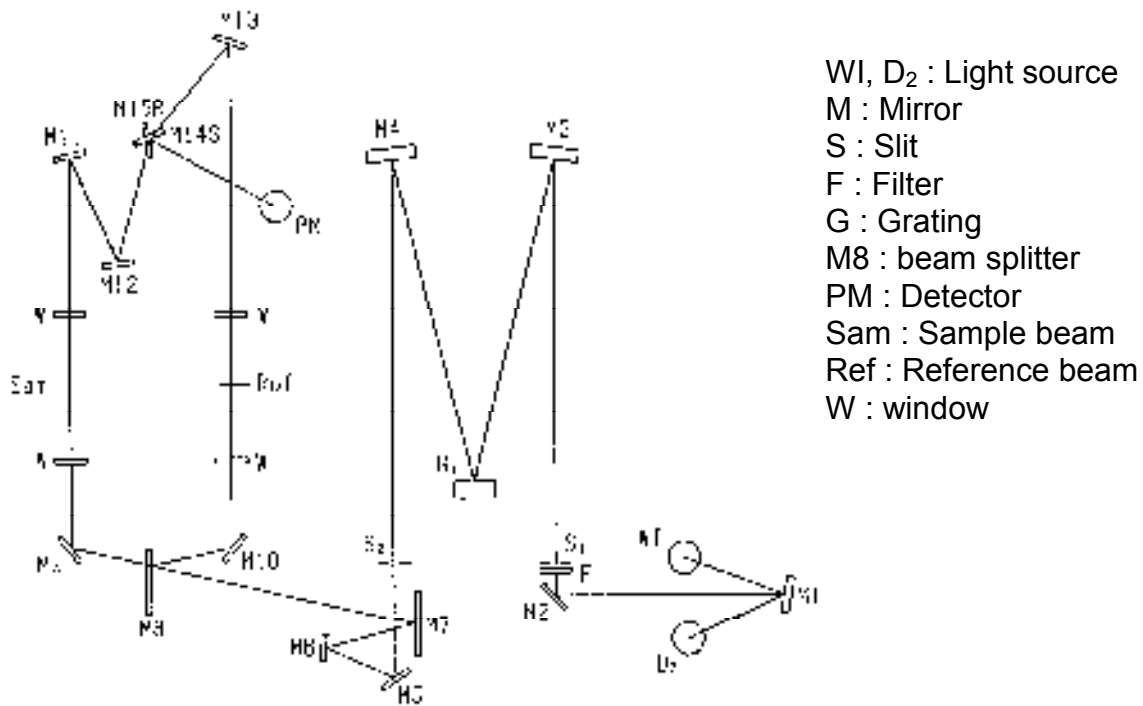

Figure 2.3 V-550 Optical system
Figures 2.3 through 2.5 show the optical systems of the V-550, V-560 and V-570 spectrophotometers, respectively. The V-550 and V-560 measure the absorption spectrum of a sample at wavelengths in the range 190 to 900 nm and the V-570 measures the absorption spectrum of a sample at wavelengths in the range 190 to 2500 nm. In each model, the light sources used are a deuterium (D₂) lamp (190 to 350 nm) for use in the ultraviolet region and Halogen (WI) lamp (340 to 2500 nm) for use in the VIS/NIR region. The light from the light source is converged and enters the monochromator. It is dispersed by the grating in the monochromator and the light passing through the exit slit is monochromated. This light is split into two light paths by a sector mirror, one incident on the sample to be measured and the other on the reference sample such as a solvent. The light that has passed through the sample and reference sample is incident on the photomultiplier tube or Pbs photoconductive cell.